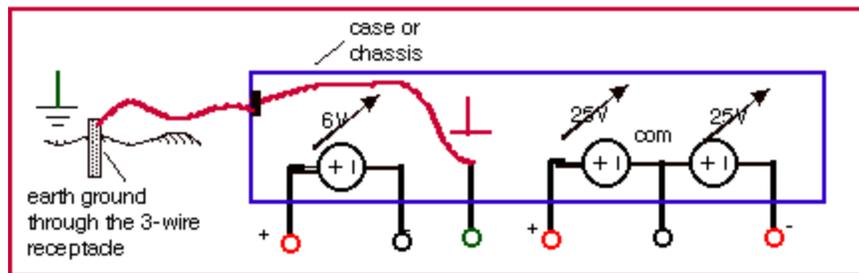

Figure 5: Simplified view of the triple output power supply
Let's look at the power supply in the constant-voltage (CV) mode. A CV power supply can be considered to be a "near-ideal" battery with a very low internal resistance. Its voltage will remain constant if its current rating is not exceeded. Figure 5 illustrates this view of the power supply. The +25V and -25V outputs have a common output terminal (denoted by "com") which is isolated from the case or chassis ground. The positive or negative terminals of each output can be grounded or each output can be left floating with respect to the ground (must be kept within +/- 240V from the chassis ground).